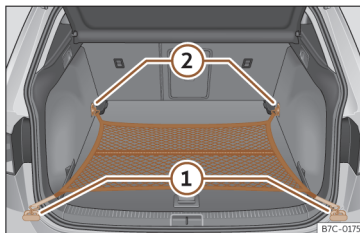

Fig. 113 In the luggage compartment: net bag hooked up at floor level.
- Secure the net hooks to the fastening rings ① and ② >>> Fig. 113 >>> ⚠. The bag zip should be facing upwards.